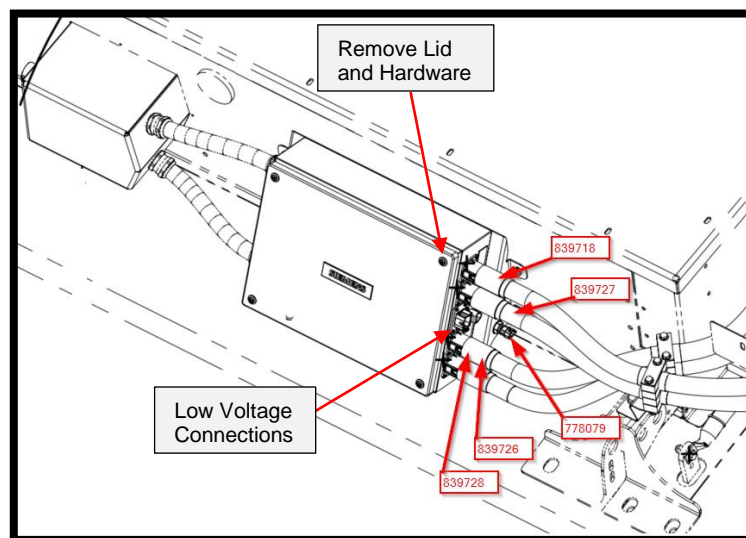

Figure 2 - POS and NEG HV cable connection location reference.
2.2. Remove the lid mounting hardware on the HV DC contactor box and set aside. See Figure 2.